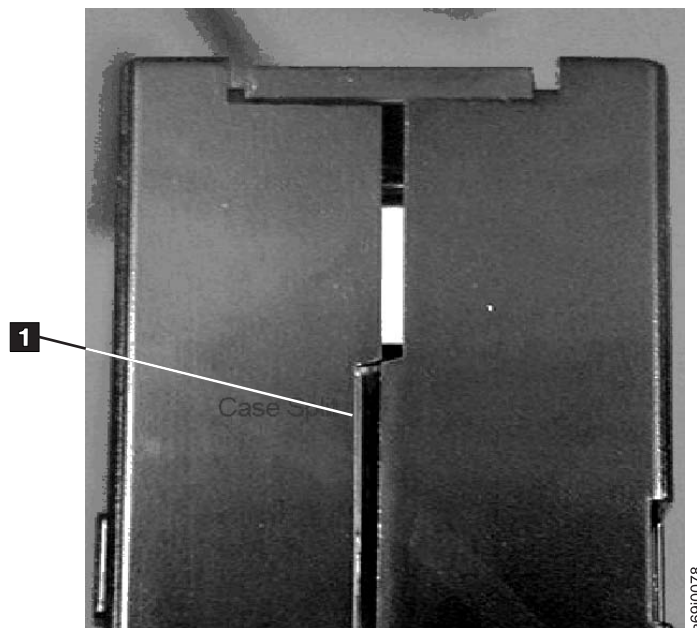
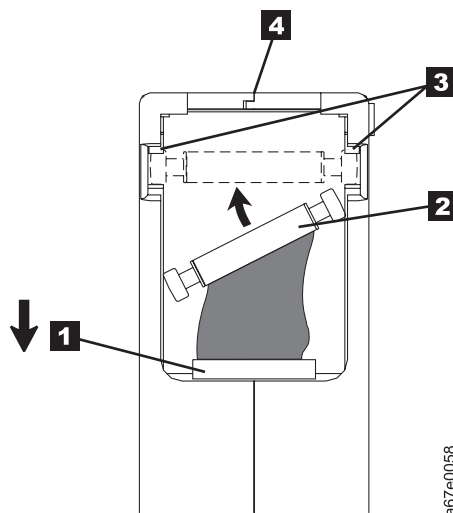

Figure 17. Checking for gaps in the seams of a cartridge
Figure 19. Placing the dislodged leader pin into the correct position. The cartridge door is open to show the leader pin.
- Inspect the rear of the cartridge (the part that you load first into the tape load compartment) and ensure that there are no gaps in the seam of the cartridge case (see **1** in Figure 17 and **4** in Figure 19 on page 44). If there are gaps in the seam (see Figure 17), the leader pin may be dislodged. Go to “Repositioning or Reattaching a Leader Pin” on page 42.
1. Slide open the cartridge door (**1** in Figure 19 on page 44) and locate the leader pin **2** (you may need to shake the cartridge gently to roll the pin toward the door).